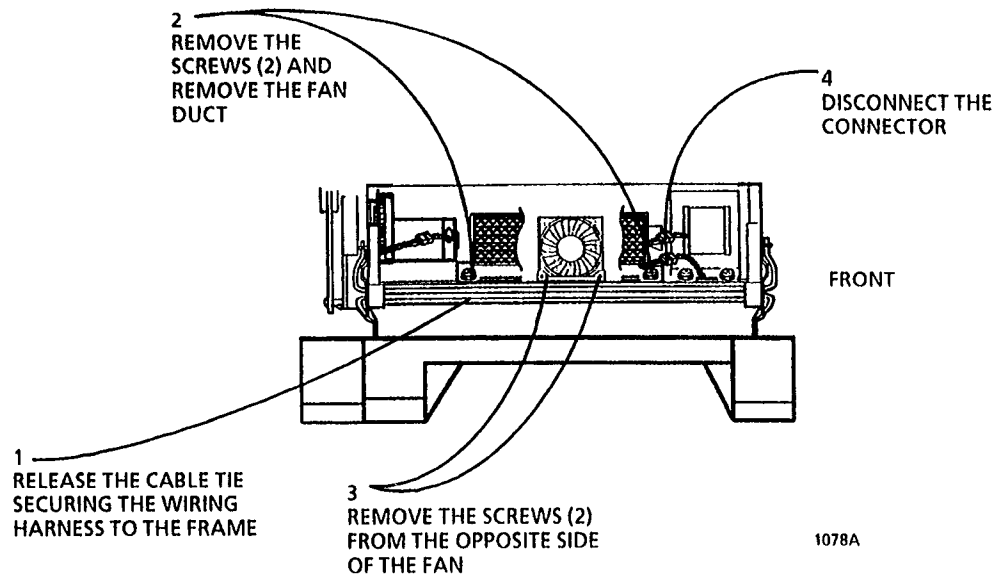

Figure 1. Removing the Fuser Fan Motor (MOT6)
7. (Figure 1): Remove the Fuser Fan Motor.